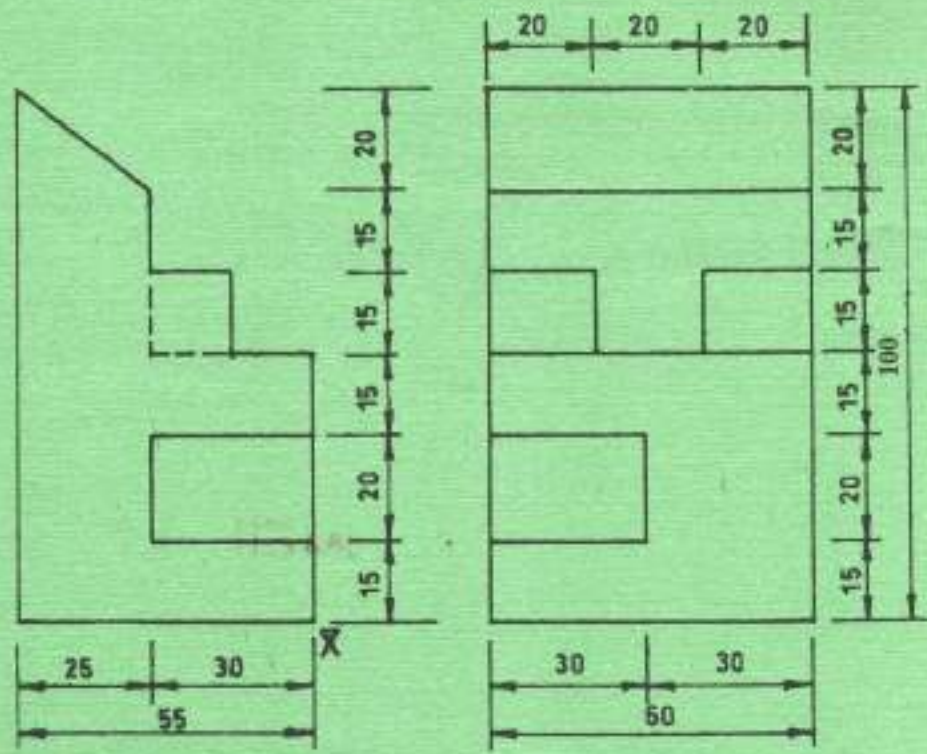

Fig. 2
7. Figure 2 shows three views of machine block in third angle projection. Draw an isometric projection of the block making corner "X" as the lowest point, include ten dimensions.